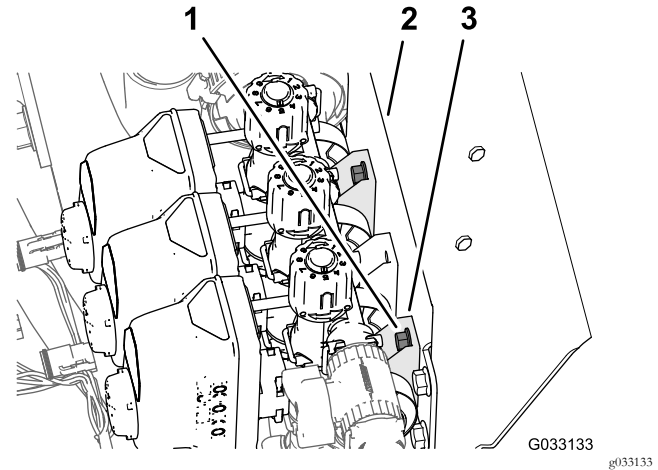

Figure 44
1. Loosen the 4 flange-head bolts (1/4 x 3/4 inch) and 4 flange locknuts (1/4 inch) that secure the 3 section valves to the manifold mount (Figure 44).